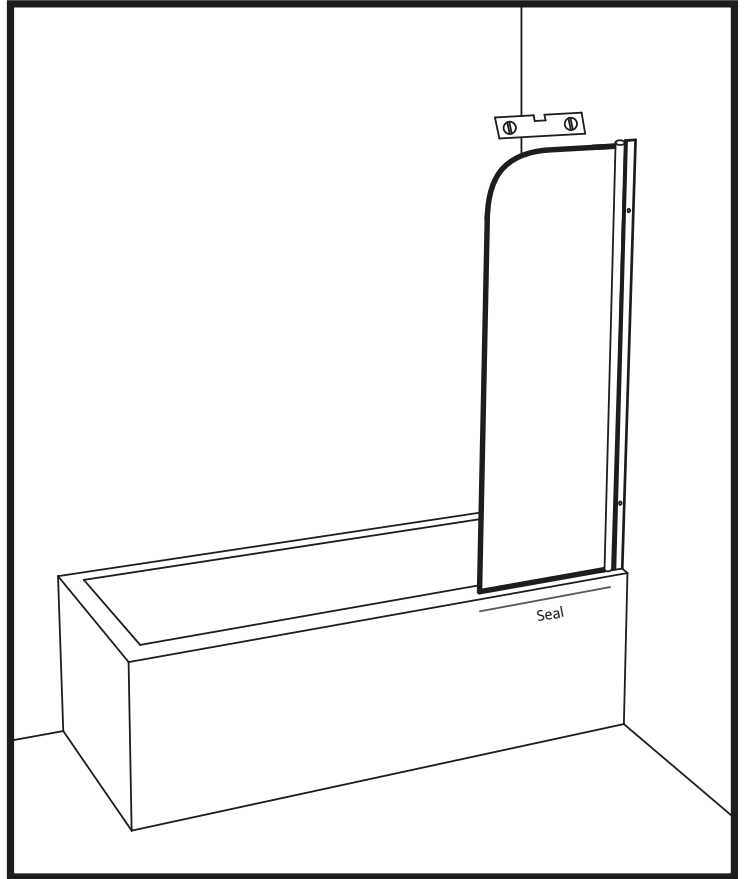

Figure 9
18. Install the gasket included in the kit on the bottom edge of the glass. (Fig 9)